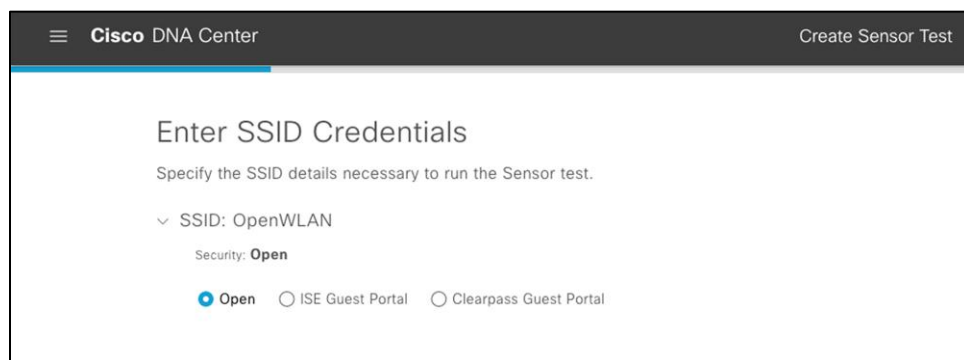

Figure 67.
3. After you choose the test target SSID, enter the credentials for sensor wireless onboarding. The available options for entering SSID credentials are Open (no credentials), ISE Guest Portal, or ClearPass Guest Portal (**Figure 67**).